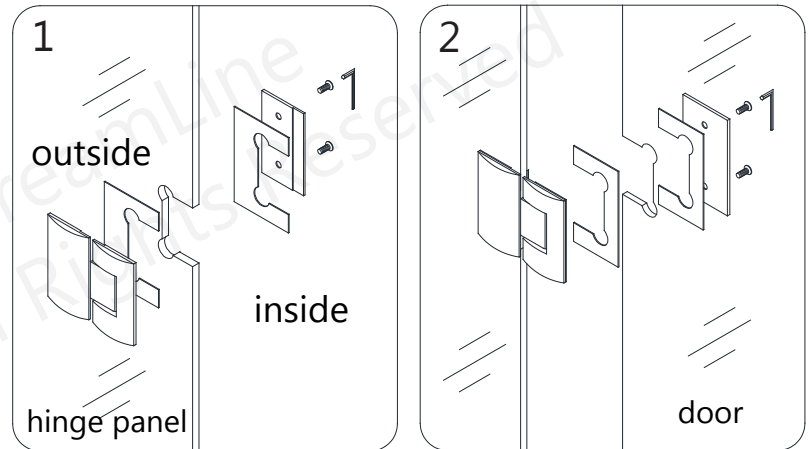

Fig 9
9. Attach the **Hinges (#06)** to the **Hinge Panel Glass (#01)** (with the bolts facing inside the shower). Use at least one gasket per side. Make sure that the hinges are flush to the edge of the glass and level. Carefully bring the **Door Glass (#02)** into the shower between the two stationary panels. Level up the **Door Glass (#02)** next to the **Hinge Panel Glass (#01)** and fasten the hinges onto the **Door Glass (#02)**. Make sure the top edges of the **Door Glass (#02)** and both **Glass Panels** are flush and level. (**Fig 9 and Fig 9a**)